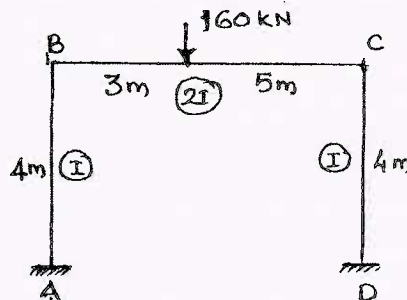

Fig.Q6
- 6 Analyse the portal frames shown in Fig.Q6 by using Kani's method. Draw BMD, SFD and elastic curve.